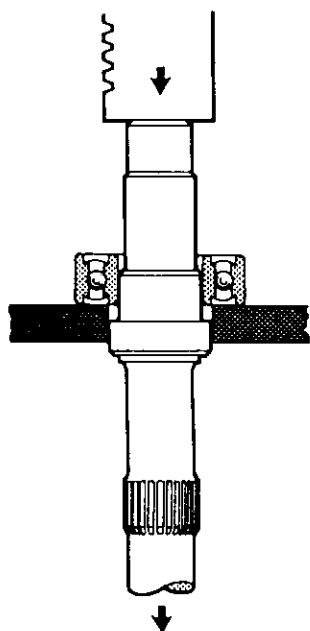

Figure 5.10
17. Support drive shaft bearing in arbor and press out shaft from bearing as shown in Figure 5.10.